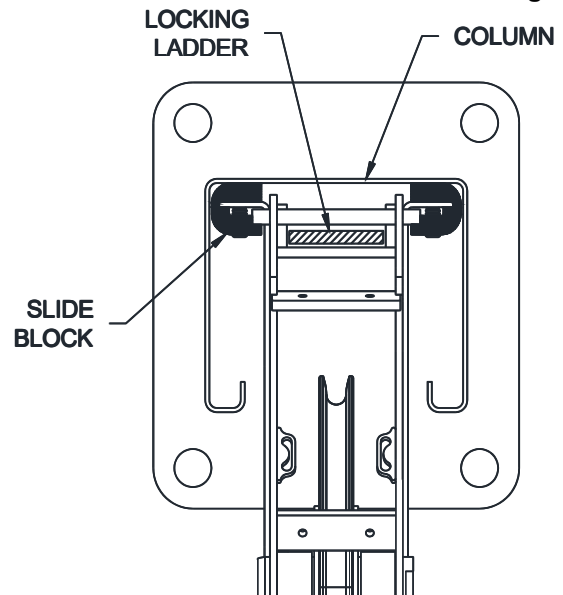

Fig 10 – Locking Ladder Orientation
- 16) Raise the locking ladder, push the column against the slide blocks, and lower the ladder into crossbeam slot, **Fig 10**. Remove the Wood 2" x 4"s and push the column so the slide blocks are in the rear of the column as shown in **Fig 10**.